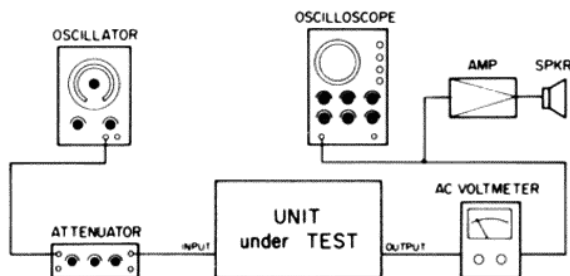

Figure 6-2. Level and Frequency Response Test Connections
1. Connect test equipment as shown in Figure 6-2.